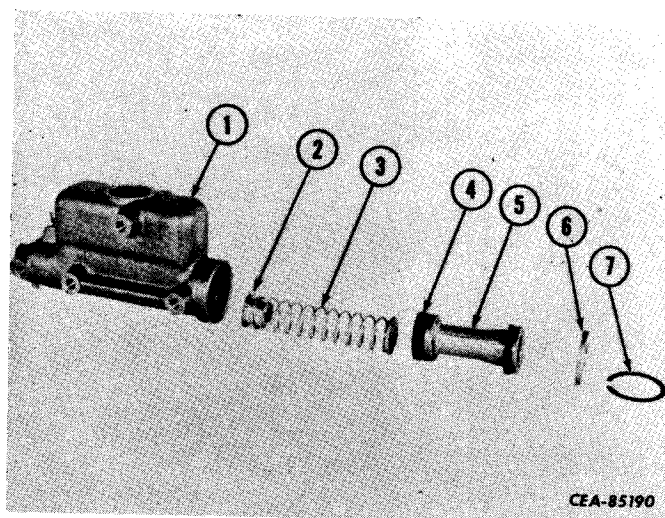

Figure 13-63
Using a snap ring pliers, remove the snap ring (7, Fig. 13-63). Slide piston stop plate (6), piston (5), primary cup (4), and piston return spring (3) out of the body (1). The check valve (2) will come out with the return spring.